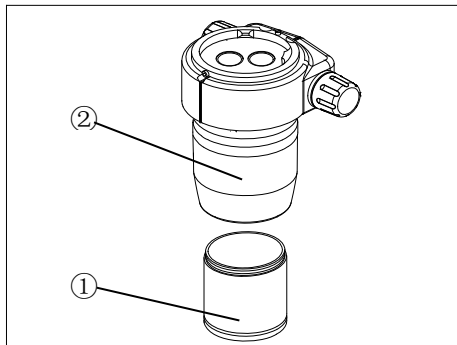
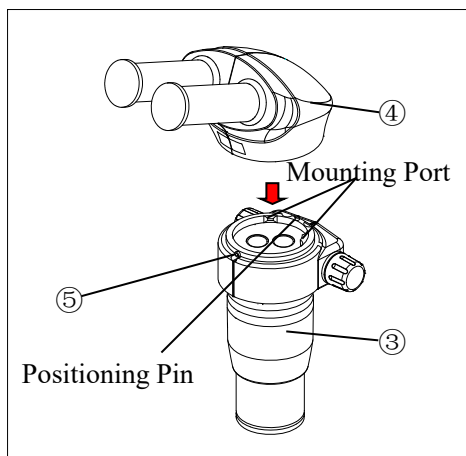

Fig.1
Fig.2
### 2.2.1 Mounting binocular viewing head (Fig.1, Fig.2)
1. Rotate the objective ① into the objective mount thread on the lower end of the zoom body ②, as ③ in fig.2.
2. Aligning the positioning pin of the zoom body ③ to the positioning groove on the binocular viewing head ④, insert the dovetail mount at the bottom of the viewing head into the mounting port on the zoom body ③, and tighten the viewing head clamping screw ⑤ with provided hexagonal driver.